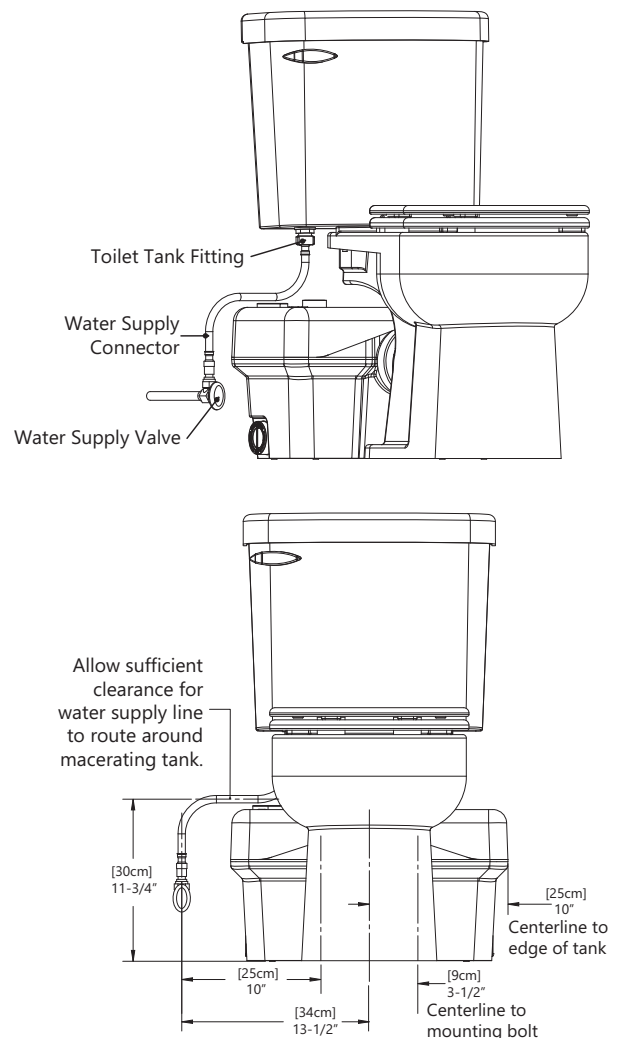

Figure 5. Toilet Connections
1. Place the macerator in the desired location and connect all inlet and outlet waste piping to the unit. The inlet side should be facing the toilet to ensure proper placement. Refer to Figure 4 and Figure 5.